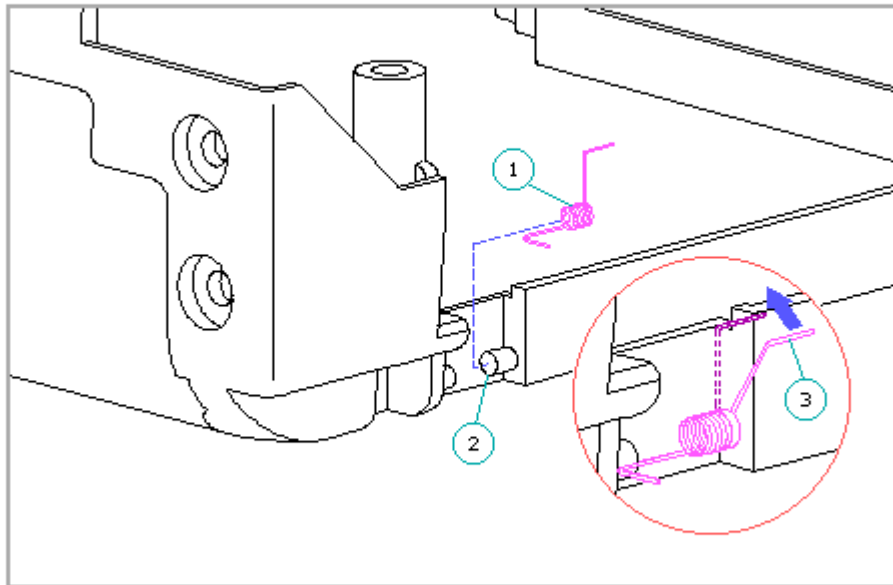

Figure 4-55. Positioning the PCMCIA Compartment Door Spring
1. Position the door spring [1] over its retaining post [2] on the computer base enclosure (Figure 4-55).
2. Position the long end of the spring [3] into its slot on top of the computer base enclosure (Figure 4-55) so that it stays in place.